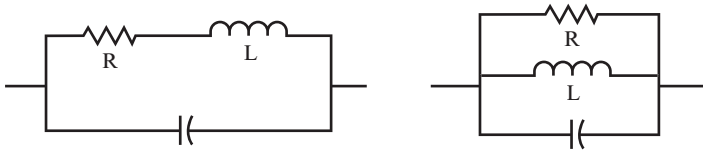

FIGURE 7.31
When you calculate Q for a circuit containing an inductor, a capacitor, and a resistor in parallel (as with the two circuits shown in Figure 7.31), include the value of the resistor (R) in the calculation.